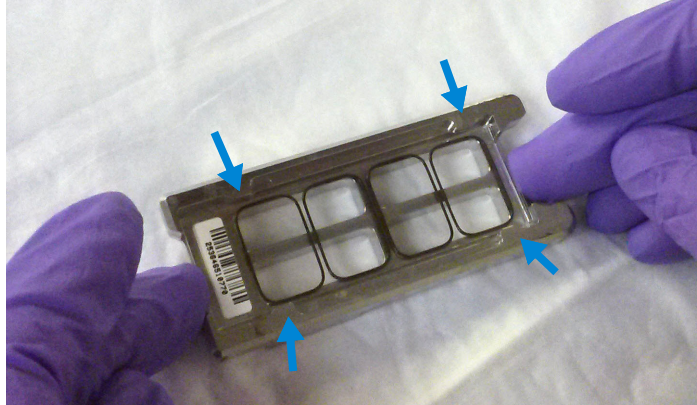

Figure 7. Chamber base with gasket and microarray slide applied, guide posts denoted with arrows
- 2 Use the four chamber base guideposts and rectangular end of the base to position the microarray slide as you lower it to within 3 mm (1/8”) above the gasket slide, making sure the microarray slide is not tilted with respect to the gasket slide. Barcode ends of both the gasket slide and the microarray slide must line up at the corners of the chamber base. Once positioned, gently rest the microarray slide on the lower gasket slide. Refer to **Figure 7** for proper technique on holding the microarray slide with both hands.